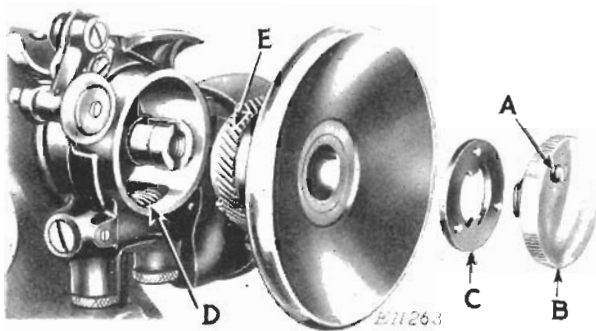

FIG. 18. BALANCE WHEEL REMOVED
Loosen stop screw (A, Fig. 18) and remove clamp screw (B, Fig. 18) by unscrewing it. Remove balance wheel together with stop motion clamp washer (C, Fig. 18).
When replacing the balance wheel, be careful not to injure the textolite gear (E, Figs. 18 and 19) when placing it in mesh with the spiral gear (D, Fig. 18) on the armature shaft. Replace stop motion clamp washer (C) so that when the stop screw (A) is tightened, it is a sufficient distance to the right of one of the three studs on the washer (C) to permit enough counter-clockwise rotation of the clamp screw (B) to stop sewing action of the machine during the winding of the bobbins.